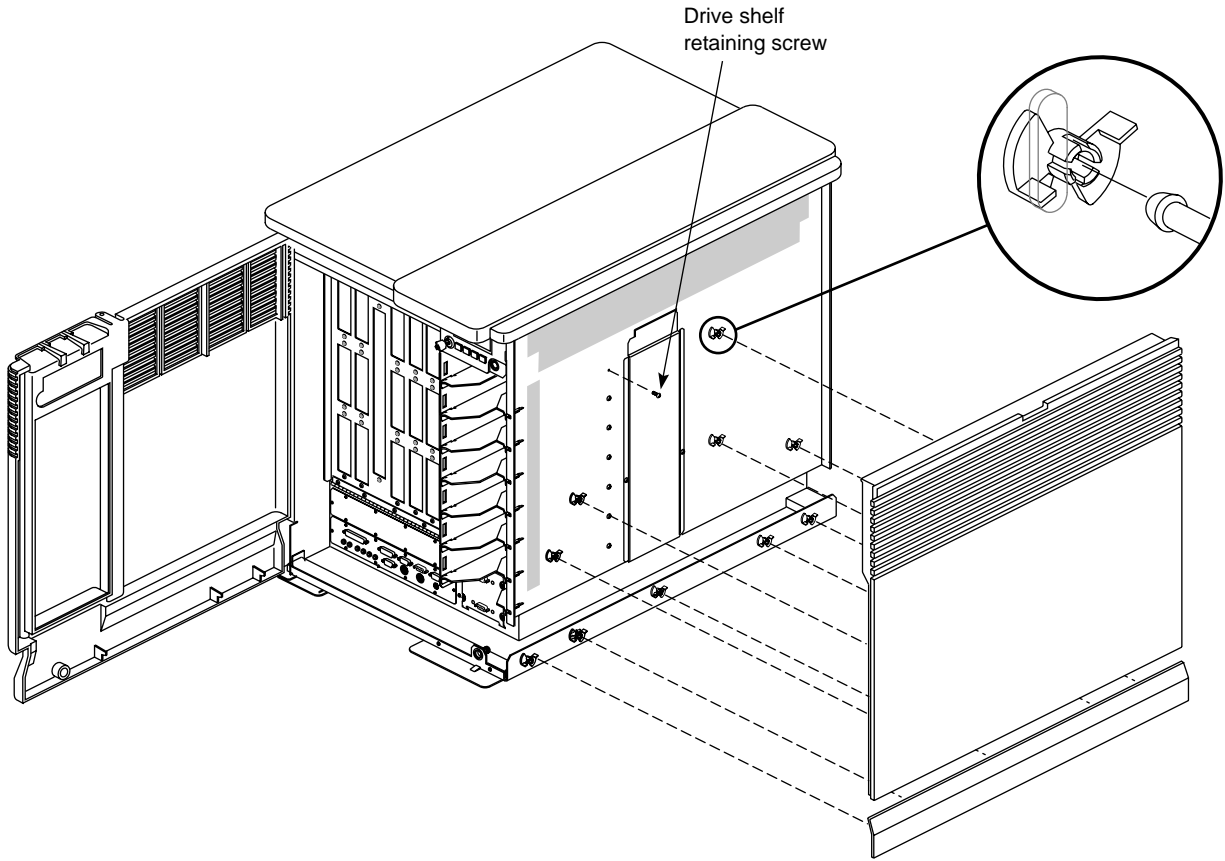

Figure 4-5 Pulling Off the Side Panel and Removing the Retaining Screw
1. Carefully remove the plastic side panel by first grasping the bottom edge of the panel. See Figure 4-5.